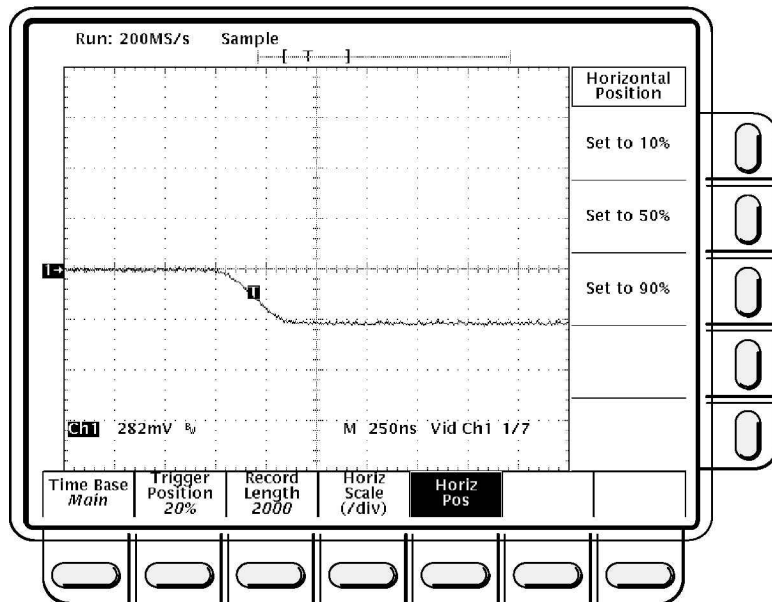

Figure 4-36: Line Count Accuracy Test Setup Waveform
- Use the **HORIZONTAL POSITION** knob to move the falling edge of the sync pulse to two divisions to the left of center screen (see Figure 4-36).